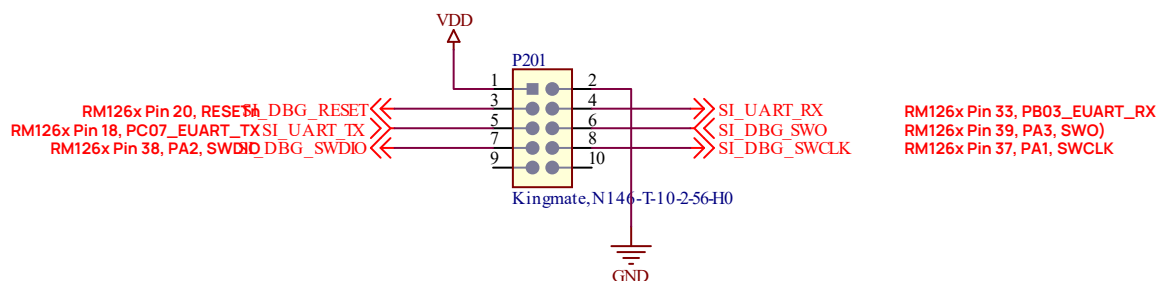

Figure 7: Wiring for 2-Pin SWD Programming/Debug Interface connector to SWD Programming/Debug interface on RM126x module
**Note 1:** Reference the RM126x development board schematic. Figure 7 shows the wiring for the 2-Wire SWD Programming/Debug Interface connector and RM126x module 2-Wire SWD Programming/Debug Interface pins.